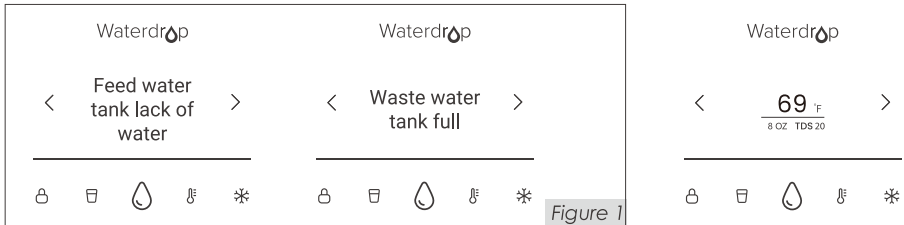

Figure 1
**Step 4:** When the indicator "🔄" lights up, and the interface shows as indicated, it means the dispenser is due for a water change. Please empty the concentrated water, refill the feed water tank with tap water, and return the tank into the dispenser. (Figure 1)